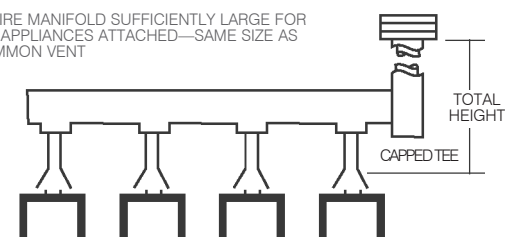

Figure 12
As shown in Figure 12, manifolds may be designed either as (1) tapered or (2) constant size. Choice is dictated on the basis of convenience and cost.